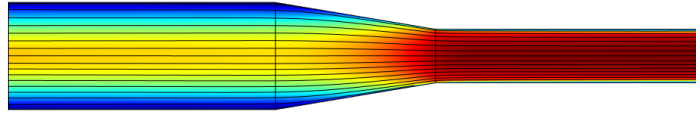

FIG. 3 Schematics for consol problem 1 with the converging nozzle.
1. Create a 2D channel of height 2. Make the domain go from  $-1 < y < 1$ . Make the inlet channel 5 units long. Create a second channel of height 1 from  $-0.5 < y < 0.5$  that is fed by the larger one, see Figure 3. Make the inlet velocity field  $u = (1 - y^2)$ . Set the outlet pressure as zero. Start with Reynolds number of 10. Compute and plot the pressure as a function of distance down the channel. Increase the Reynolds number by a factor of 10 and recompute and re-plot. Keep increasing by factors of 10 until the simulation breaks down and high Reynolds number. Compare the last good solution to that you would get from Bernoulli's equation. Think about the behavior at low Reynolds number and whether you could have a simple model for the pressure in that case too.